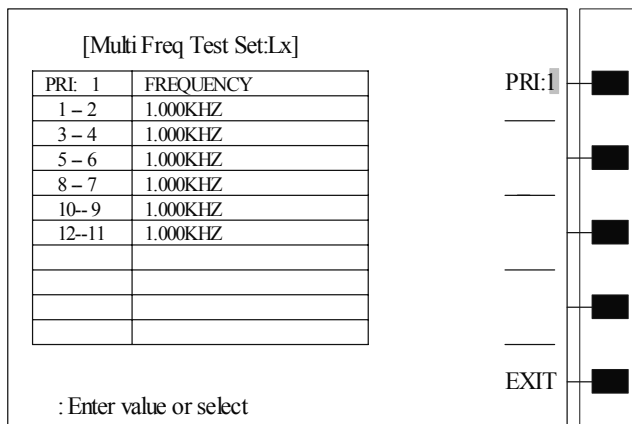

Figure 3-2-4-8
- II. Press **[Multi-freq]** soft-key to enter into **< Multi freq test set: Lx>** page layout which is showed as figure 3-2-4-8:
- User may skip setup to test frequency and voltage of Inductance because each parameter test frequency and test voltage in figure 3-2-4-1 are 1kHz and 1V respectively.